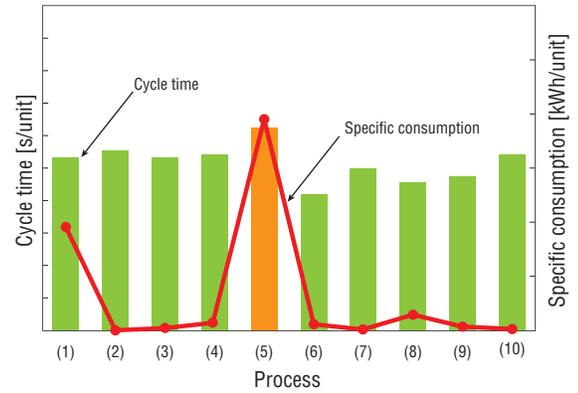

Fig. 6, Visualization using specific consumption by production process
Figure 6 illustrates an example of visualization. The specific consumption is displayed by process, showing that the specific consumption represented by the line graph worsens in process (5) in association with the change in product model. By overlaying the cycle time represented by the bar graph, it shows that the cycle time increased in process (5), which disturbs the balance in the production line as a whole. In this case, by improving the equipment in process (5) to reduce the cycle time, the productivity of the whole production line was increased and energy consumption as a whole was reduced, thus reducing energy costs.